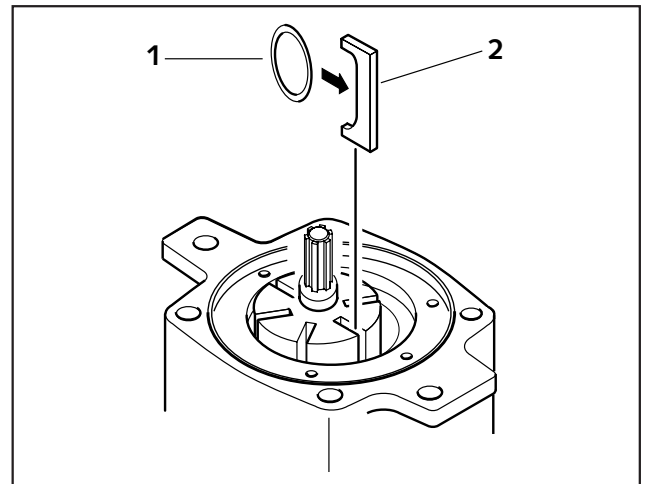

Figure 18: Insert the vanes into the slots where the gap is largest
- ▶ Mount the brake disc and brake assembly into the opposite end of the housing and close the housing with the brake cover, sealing ring and four hexagon socket screws (see Figure 18).